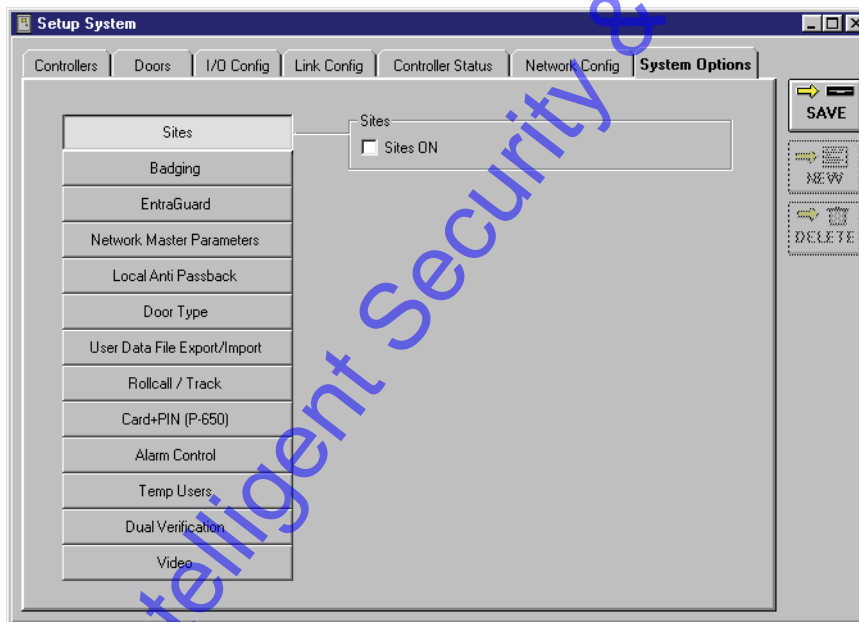

Figure 2-5: System Options Tab
1. From the Setup System window, click on the **System Options** tab. The System Options window appears (see Figure 2-5).
1. If the Sites ON field is not already visible on the System Options tab, click on the  button. The System Options window will reveal the field for enabling multiple sites (see Figure 2-5 on page 7 of this section).